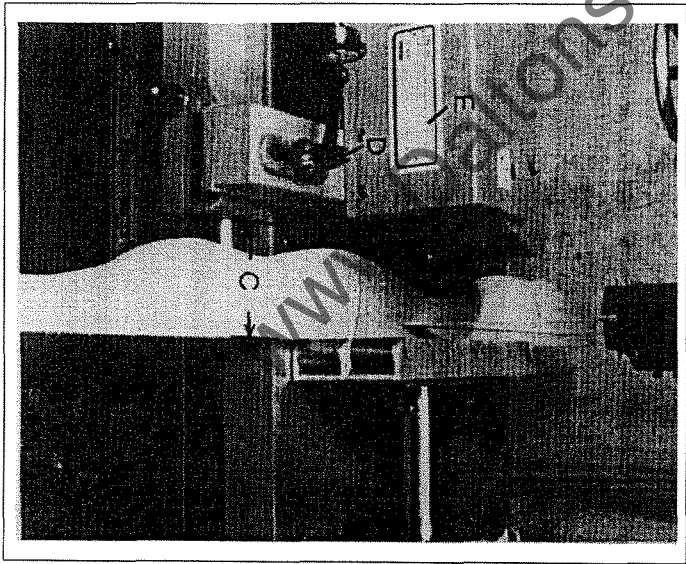

Fig 35
- d) Wane edge or tapered stock (FIG. 35).
6. Slide feed unit into position to suit stock being ripped so that the distance between the fence and the feed roller is smaller than the stock width, or the distance between the fence and the feeder body (see 'C' FIG 35) is greater than the stock width, Note: Maximum variance 100mm (4").
7. Check the feed arm and rollers will swing clear of the top guide and guard, adjust if necessary with locking handle 'D' (FIG 35).
8. Switch on machine, check and re-select feed speed (see chart 'E' FIG 35).